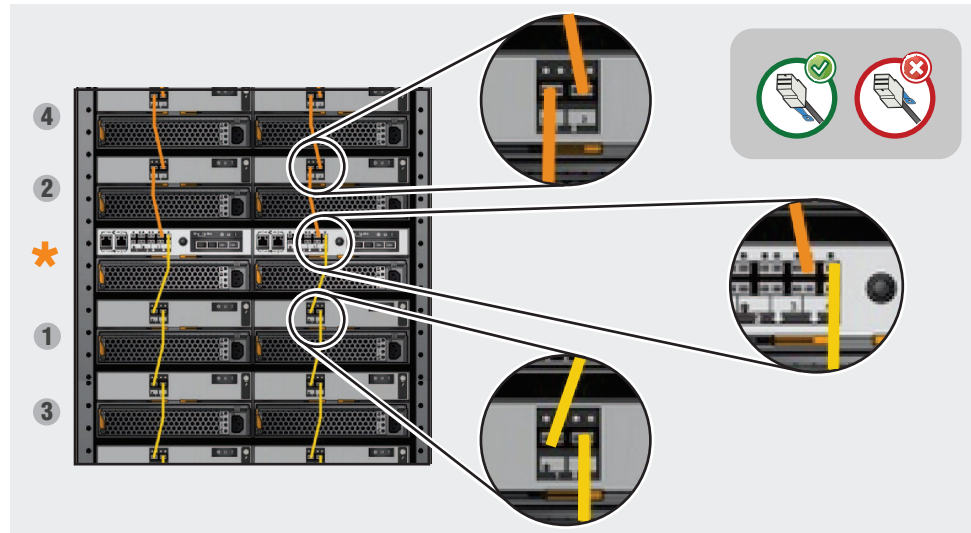

Figure 14. Connecting the SAS cables
1. Using the supplied SAS cables, connect the control enclosure to the expansion enclosure at rack position 1, as shown in Figure 14 on page 19.
2. To add a second expansion chain to the control enclosure, use the supplied SAS cables to connect the control enclosure to the expansion enclosure at rack position 2, as shown in Figure 14 .
3. If more expansion enclosures are installed, connect each one to the previous expansion enclosure in a chain; use two Mini SAS HD to Mini SAS HD cables, as shown in Figure 14 .